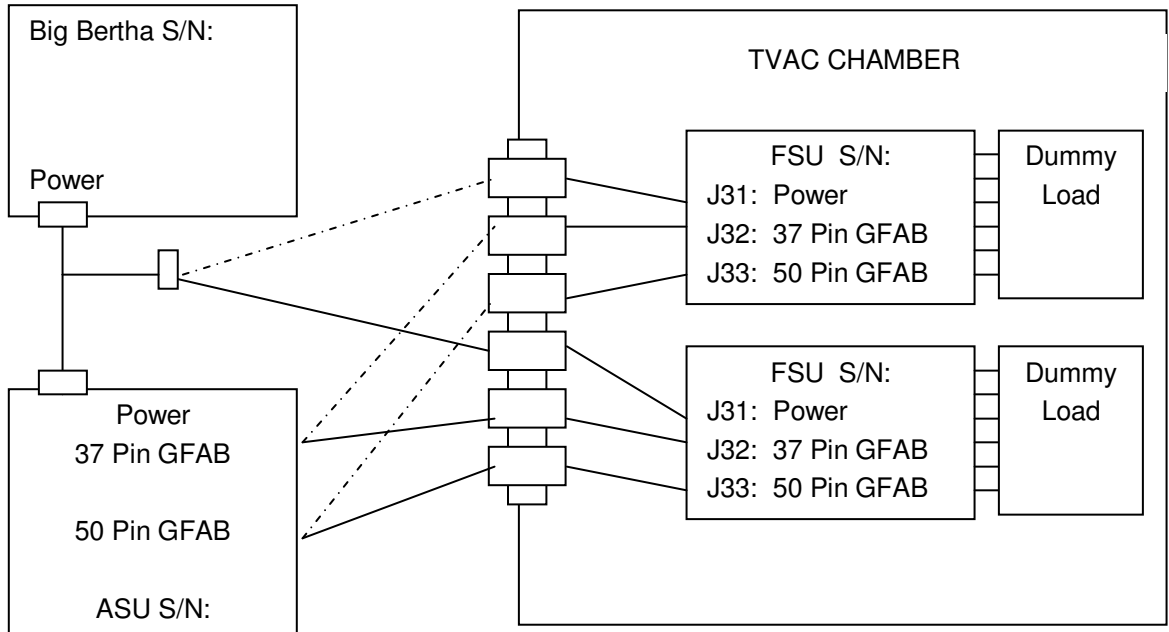

Figure 2 – Power and data cables (dashed lines indicate alternate set up)
- 13.4 Install power and data cables, as shown in Figure 2. The six foot cables are used inside the chamber, and the 12 foot cables are used outside the chamber.